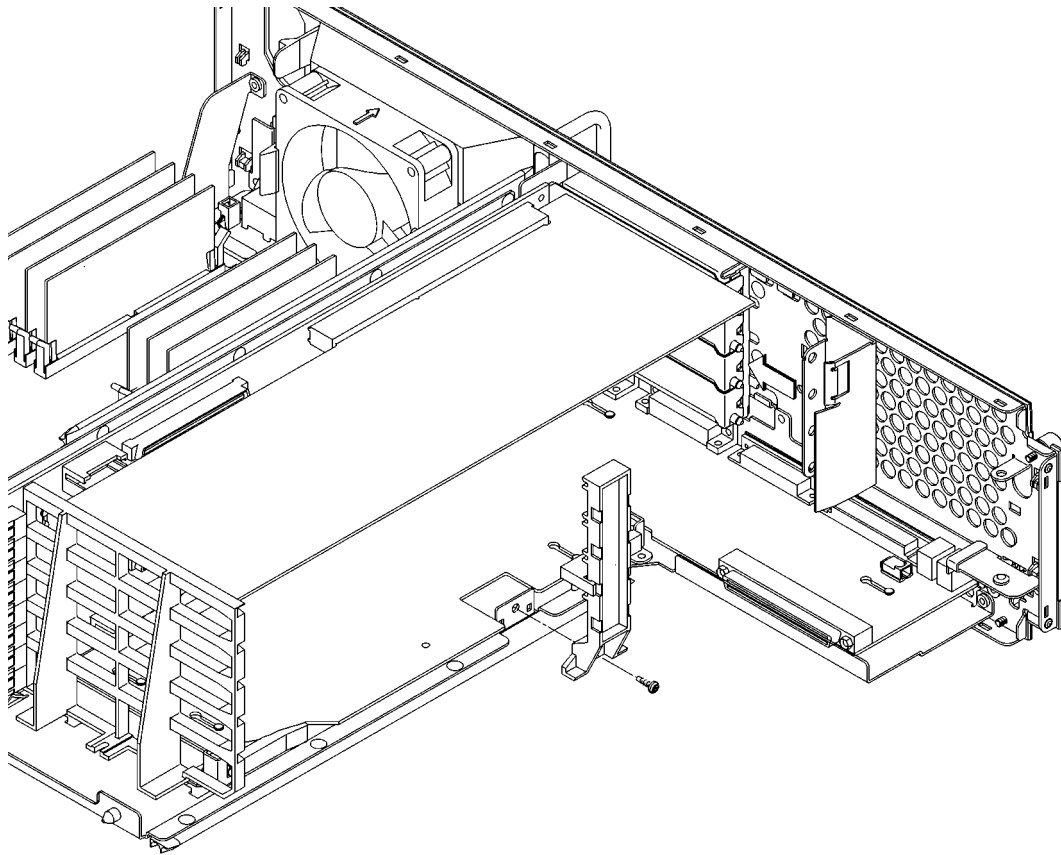

Figure 47 **Installing the EISA Retainer and EISA Slider**
- 11 Replace the EISA retainer and its screw, as shown in Figure 47.
- 12 Replace the EISA slider, as shown in Figure 47.